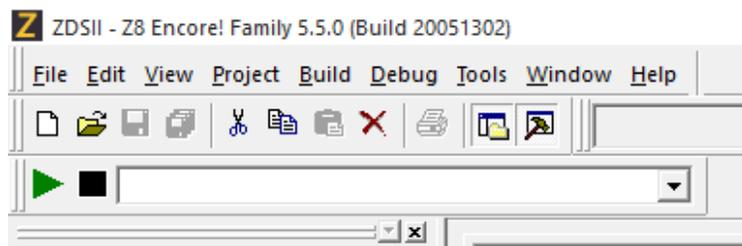

Figure 1. ZDSII Command Processor
Flash Loader commands are executed from the ZDS II Command Processor toolbar, as displayed in Figure 1. To execute a command, type the command in the text entry field, then click the GO icon (the green arrow in Figure 1).
3. In the Command Processor toolbar, enter the commands in the following format to use the Flash Loader. Click the GO icon (see Figure 1) to run each command.